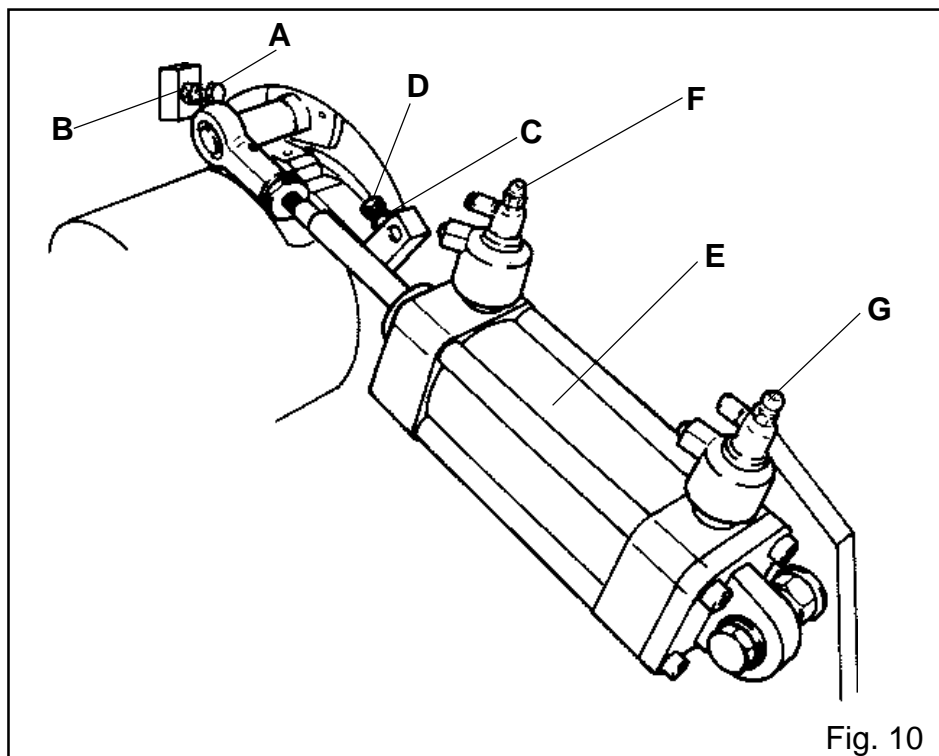

Fig. 10
- Loosen nut B (Fig.10) which fixes screw A (Fig.10) by means of correspondent spanner.
- Turn screw A (Fig.10) to clockwise direction to increase cutting angle or turn the screw to anticlockwise direction to reduce cutting angle.
- Lock nut B (Fig.10) by means of a key C (Fig.10)
- Loosen nut C (Fig.10) which fixes screw D (Fig.10) by means of correspondent service spanner.
- Turn screw D (Fig.10) to clockwise direction to reduce cutting angle or turn screw to anti-clockwise direction to increase cutting angle.
- Lock nut C (Fig.10) by means of correspondent spanner.
- The piston E (Fig.10) is equipped with speed adjusters F e G (Fig.10).